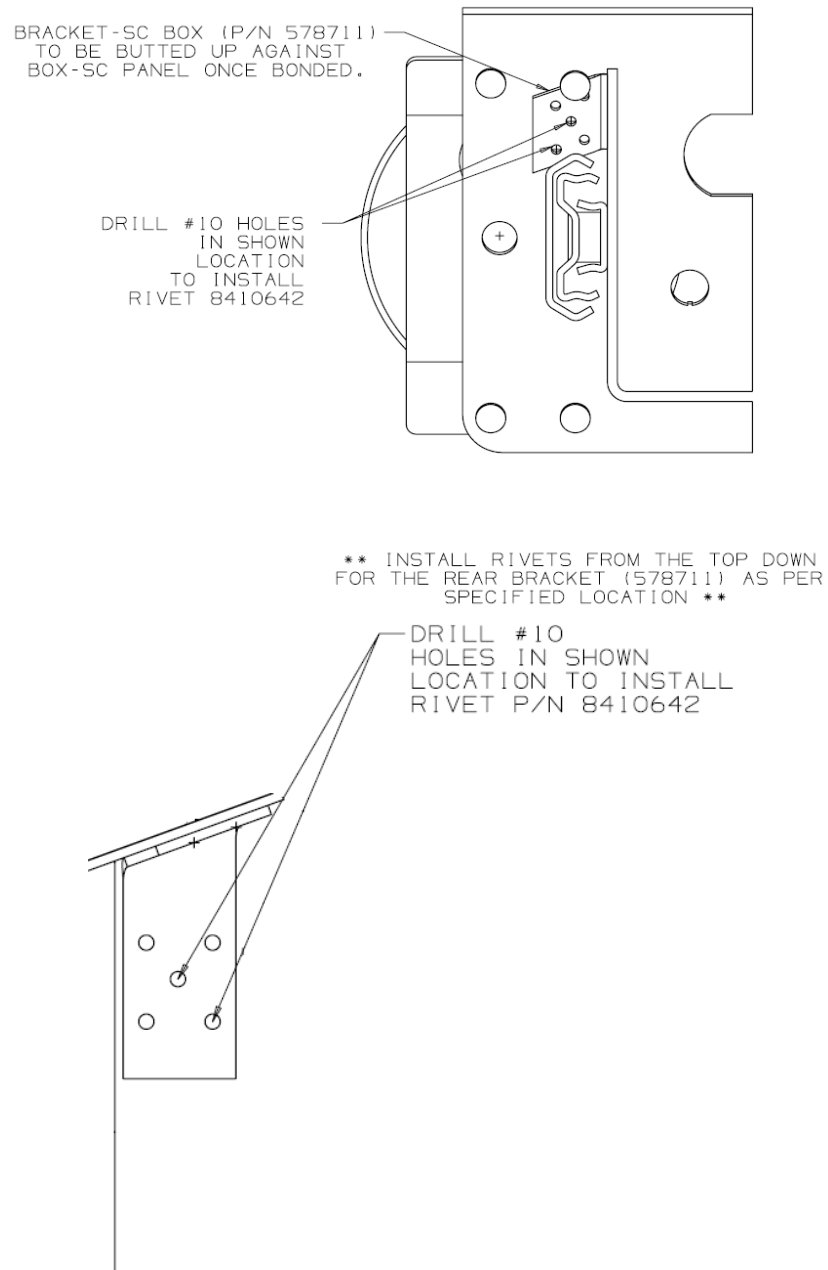

Figure 6: Rear Bracket Hole Locations
- g. Using a drill and a #10 drill bit, drill four through holes in the rear bracket in the four locations shown in Figure 6. Rivets will go through the side console top panel and through the side of the side console box.
- h. Install two black rivets (NF PN 8410642) in the side console top panel in location shown in Figure 6.
- i. Install two black rivets (NF PN 8410642) in the side of the side console box in location shown in Figure 6.